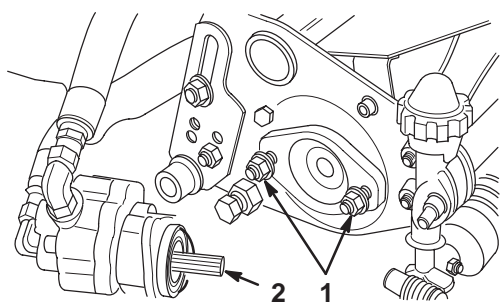

Figure 6
3. Assemble the mount nuts for the reel drive motor to each cutting unit. Leave approximately 1/2 in. (13 mm) of threads exposed on each mount stud (Fig. 6).
4. Remove the protective covers from the cutting units and the reel drive motor shafts. Coat the spline shaft of the motor with clean grease and install the motor by rotating the motor clockwise so the motor flanges clear the studs. Rotate the motor counterclockwise until the flanges are encircling the studs and tighten the mounting nuts (Fig. 6).